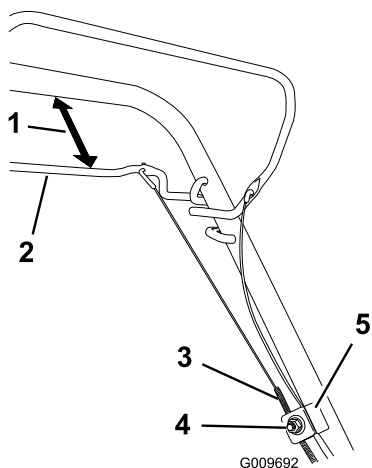

Figure 31
1. Loosen the cable-support nut (Figure 31).
2. Hold the self-propel drive bar 25 to 38 mm (1 to 1-1/2 inches) from the handle (Figure 31).
3. Pull down the cable jacket (toward the machine) until there is no slack in the cable (Figure 31).